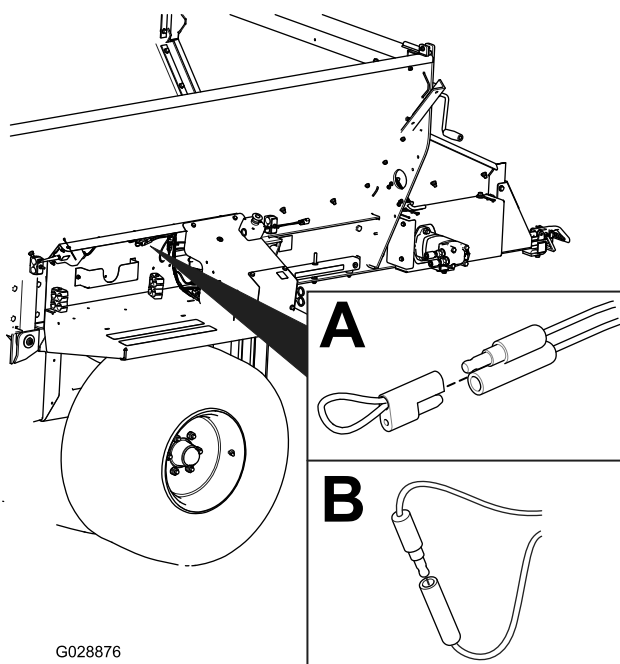

Figure 32
2. Pull the tethered cap off of the 2 diagnostic, shunt connectors (Figure 32, A).
3. Connect the diagnostic, shunt connectors together (Figure 32, B).
2. Disconnect the diagnostic, shunt connectors (Figure 32, B).
3. Push the tethered cap onto the 2 diagnostic, shunt connectors (Figure 32, A).